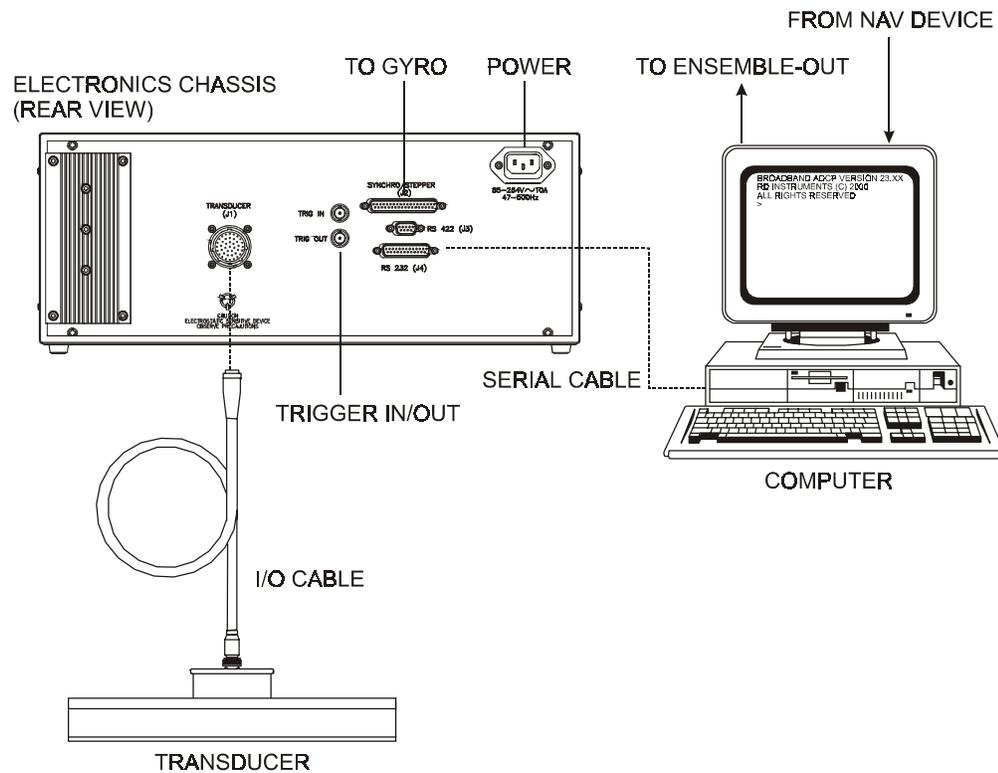

Figure 2. Ocean Surveyor Connections
Use Figure 2, page 7 to connect the Ocean Surveyor to a computer for a bench test. Read and follow the cautions listed below *before* applying power to the Ocean Surveyor.
- a. Connect and power up the ADCP as shown in Figure 2, page 7.